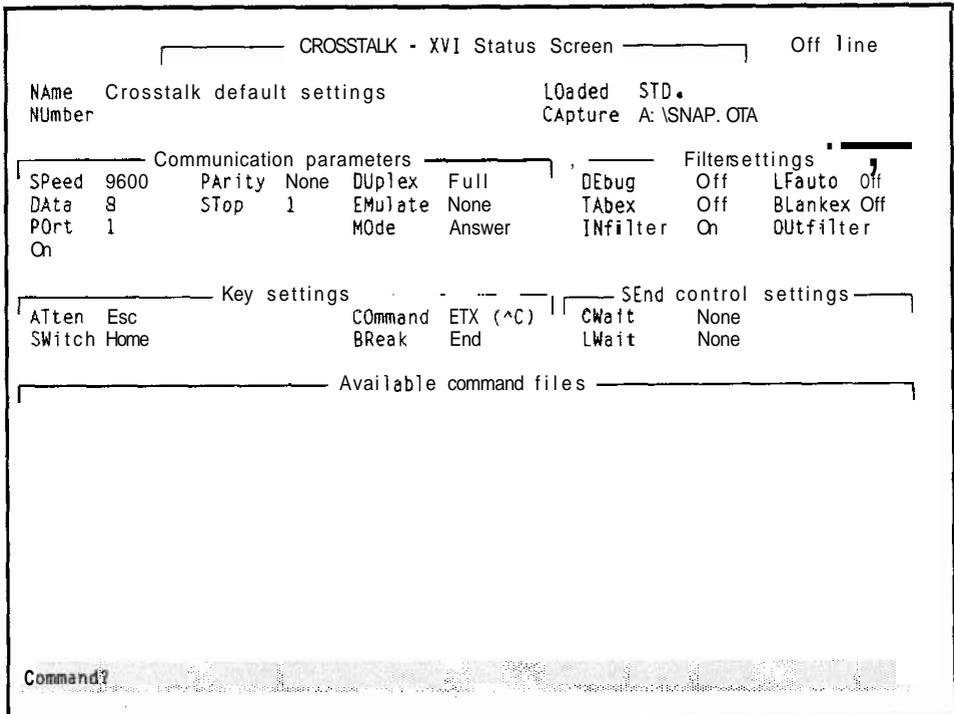

Figure 8 Crosstalk Status Screen
1. Start Crosstalk. The Status Screen will appear. See Figure 8.